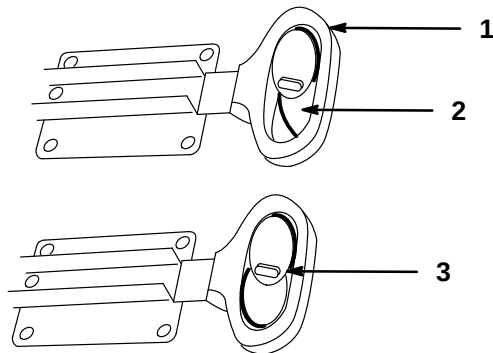

Figure 18
5. Align the cams that are fitted in the blade loops by moving the blades slightly (Fig. 18).
8. Ensure that the cams are still aligned (Fig. 18).